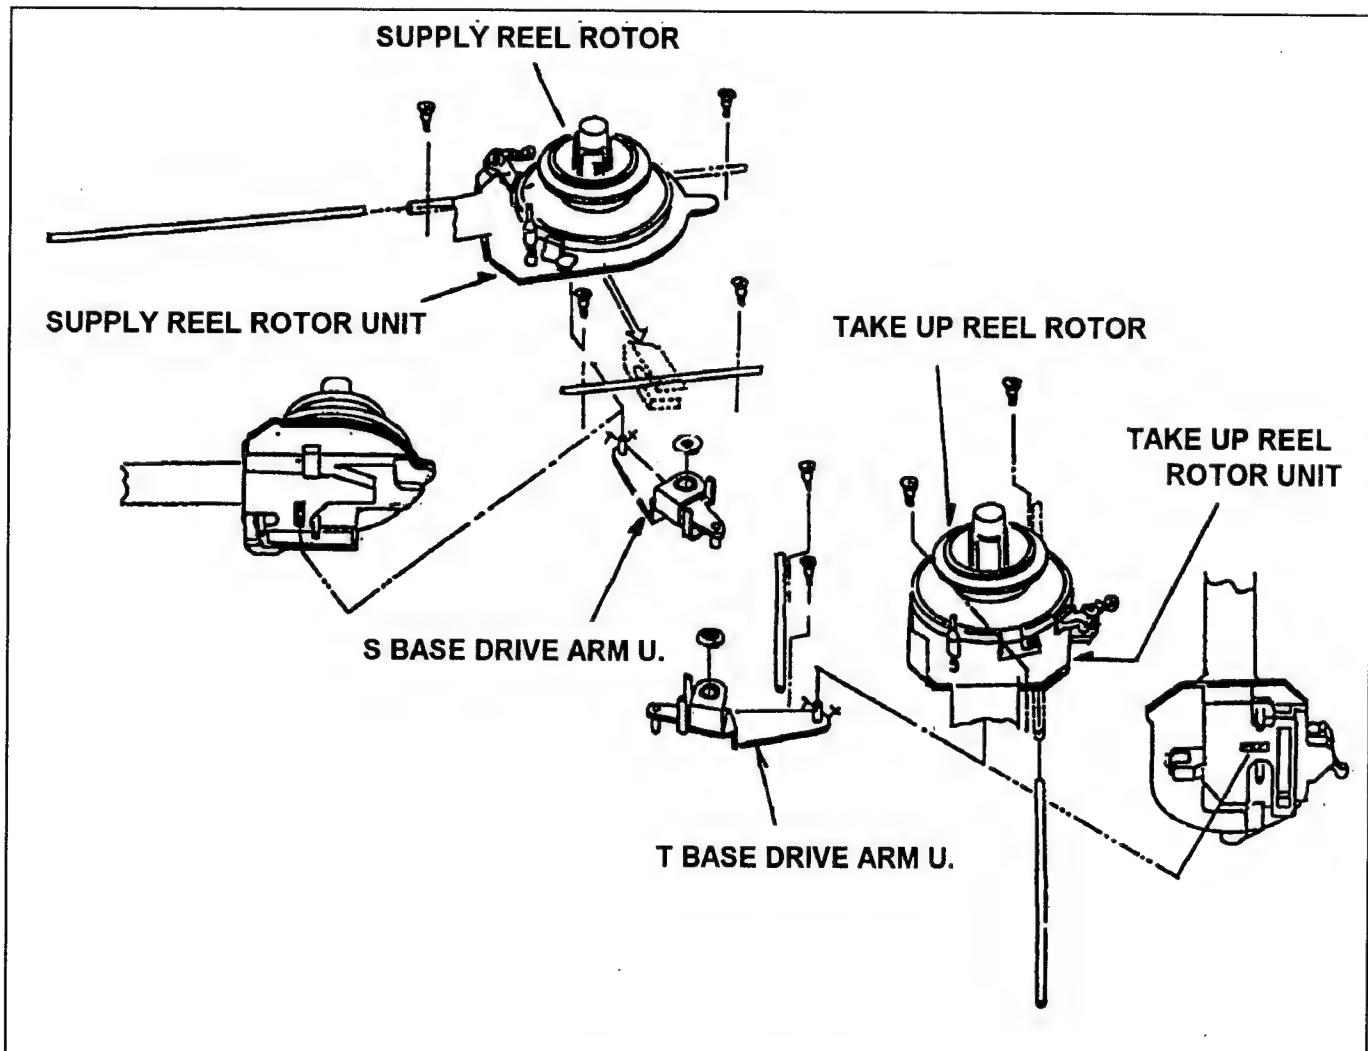

Fig. 4-4-3 Install of S & R Reel Rotor Unit
2. Hang on the Reel Rotor Unit to Reel Inner Rail and Install the Reel Rotor Unit then the pin of Drive Arm Unit should be matched with groove position of Reel Base as shown in Figure 4-4-3.
3. Install the 4 screws (C), (D) and (E).
7. Confirm the Main Brake Torque (Refer to item 3-3).
9. Adjust the Motor Torque Offset value (Refer to item 1-1 of section 4).
10. Confirm that the Tension value on playback mode (Refer to items 3-15, 3-16).